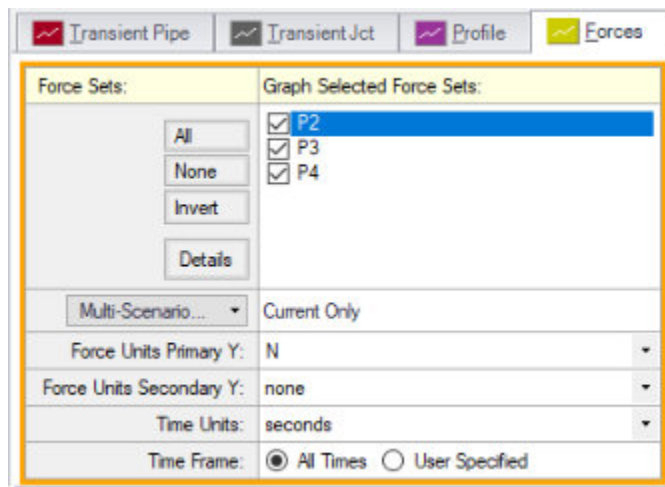

Figure 5.11 Graph parameters for force sets
1. Select the Forces tab on the Graph Control tab on the Quick Access Panel, as shown in Figure 5.11.